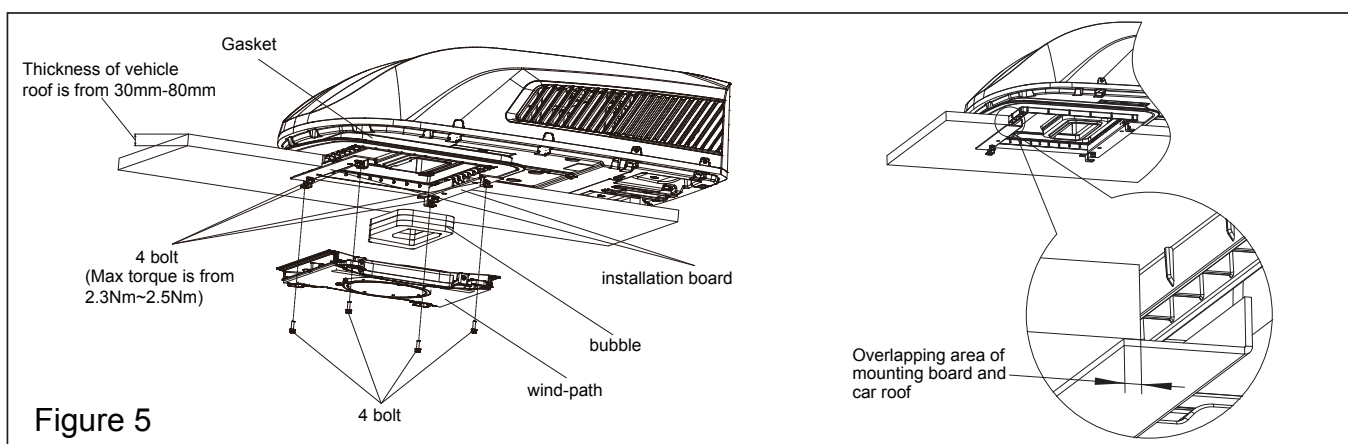

Figure 5
3. Then carry the outdoor unit to the vehicle's top and align with the openings on the vehicle's top. Use 2 sets of mounting plate assembly and 4 screw bolts to mount the outdoor unit. As for installing the mounting plate sub-assy, these 4 long bolts' holes should be align with the 4 holes on the a daptor respectively at first and then the upper planes on the bottom edge of two mounting plates must be overlapped with the bottom surface of vehicle roof. (See Figure 5).
6. Install the foam assembly on the air duct assembly. Use 4 screw bolts to fix the air duct assembly onto the mounting plate. After connecting the outdoor unit with indoor unit, check whether the foam assembly has come loose (See Figure 5).